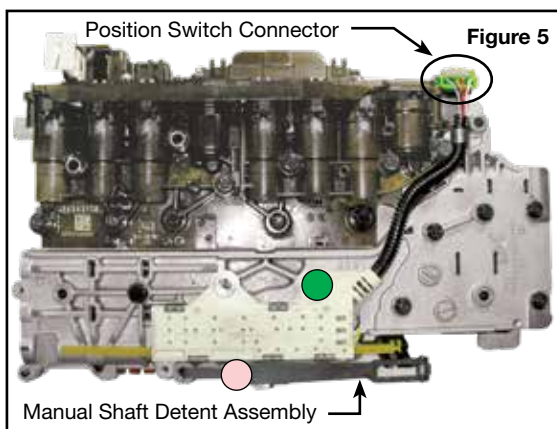

Figure 5
- Remove the single 8mm head bolt and manual shaft detent assembly. Release the position switch assembly connector, remove the single 10mm head bolt, then remove the position switch assembly (Figure 5).